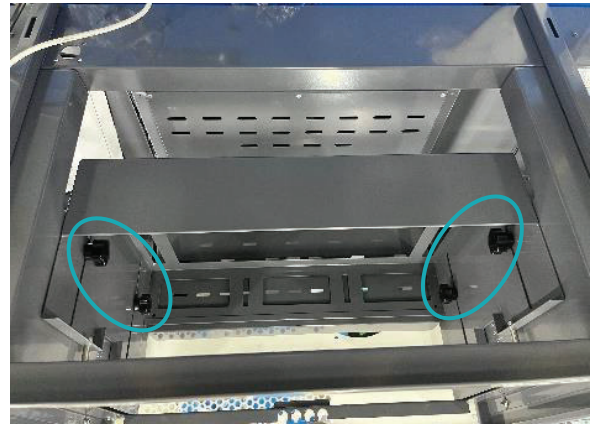

Figure 10. Lamp Bracket Height Knobs
- 1) Open the enclosure and adjust the emitter cradle height using the four knobs (Figure 10.). The lowest height is 12 mm from the emitter cradle's bottom to the belt surface.